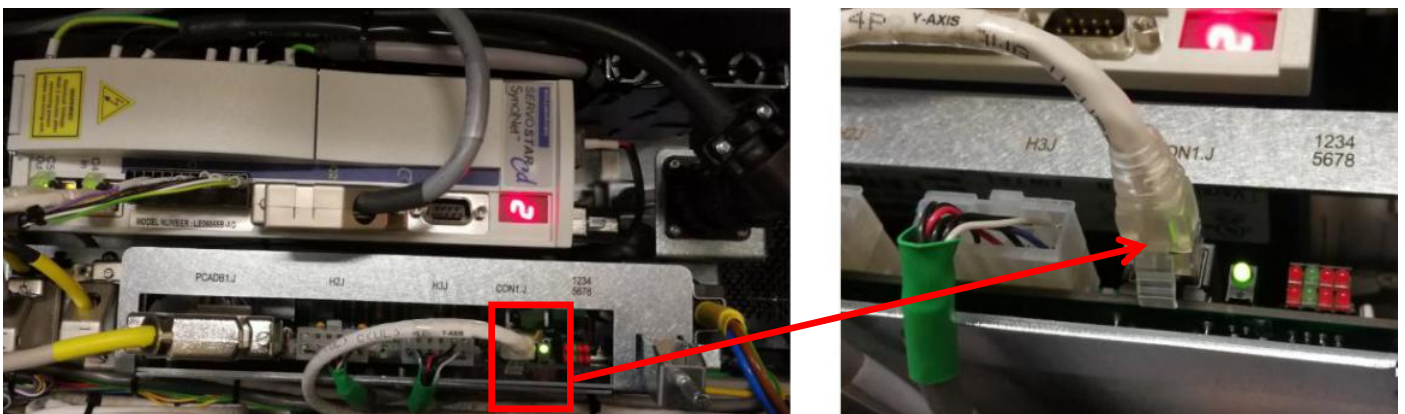

Figure 24
29. Connect Y axis Interlock Cat5 Cable at CON1J as Figure 24